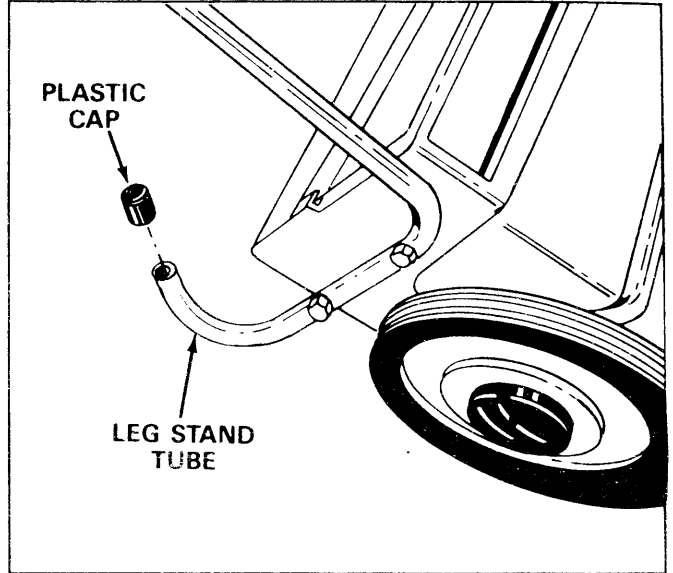

FIGURE 7
- Assemble the two plastic caps (3/4" x 7/8" long) on the end of the leg stands as shown in figure 7.